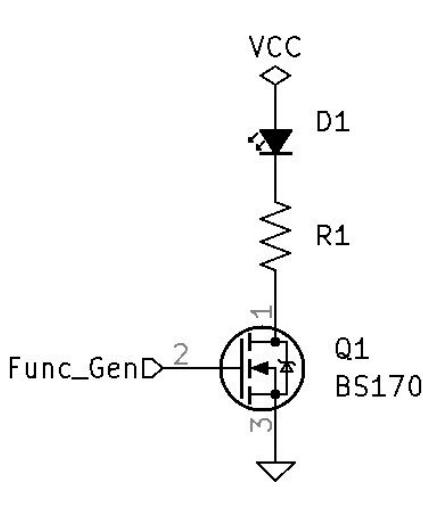

Figure 12.1: Switch Test Circuit 1
2. Design a circuit to test the switching ability of the BS170. See *Switch Test Circuit 1* Figure 12.1. Make $VCC = 40V$.